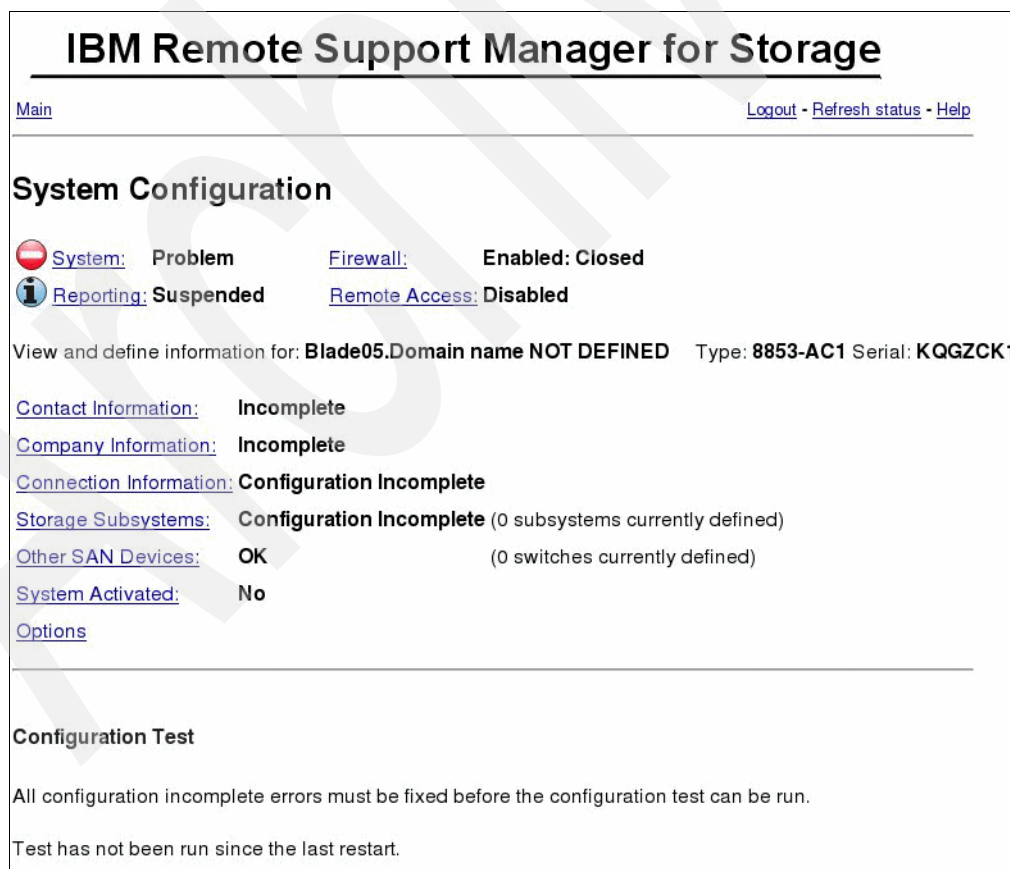

Figure 15-6 System configuration incomplete
4. The System Configuration window shows the incomplete tasks that need to be completed before the RSM system can be used (Figure 15-6).
- The task Contact Information in System Configuration will be marked OK. Click **Company Information**, as shown in Figure 15-6 on page 364.
- The task Company Information in System Configuration will be marked OK. Click **Connection Information**, as shown in Figure 15-6 on page 364.